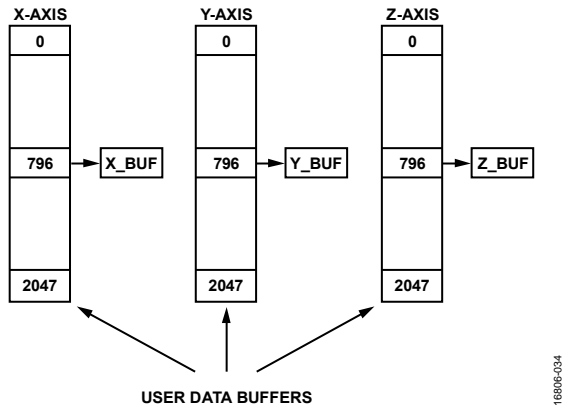

Figure 52. Register Activity, BUF_PNTR = 0x031C (MFFT Mode or AFFT Mode)
Writing a number to the BUF_PNTR register causes that sample number for each user data buffer (x, y, and z) to load to the X_BUF register, Y_BUF register, and Z_BUF/RSS_BUF register. For example, using the following code sequence on DIN writes 0x031C to the BUF_PNTR register: 0x8A1C and 0x8B03. This write causes sample pointer to x (796), y (796) and z (796) from each user data buffer to load to X_BUF, Y_BUF, and Z_BUF/RSS_BUF (see Figure 52).